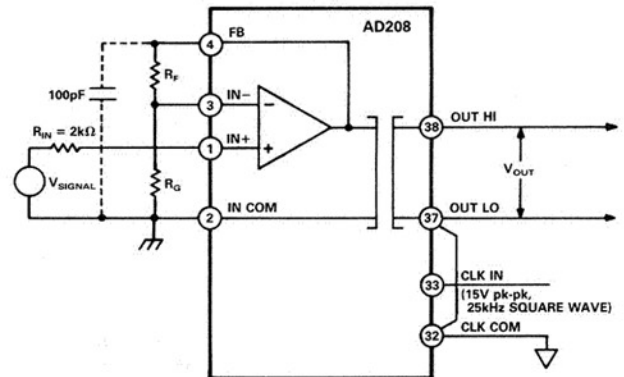

Figure 30. Input Configuration for a Gain Greater Than 1
**Input Configuration for a Gain Greater Than 1 ( $G > 1$ ).** When small input signal levels must be amplified and isolated, Figure 30 shows how to get a gain greater than 1 while continuing to preserve a very high input impedance.
**Note on the 100 pF Capacitor:** Whenever a gain of 50 V/V or greater is required, a 100 pF capacitor from the FB (input op amp feedback) terminal to the IN COM (input common) terminal, as shown with the dotted lines in Figure 30, is highly recommended. The capacitor acts to filter out switching noise and will minimize the isolator's nonlinearity parameter.